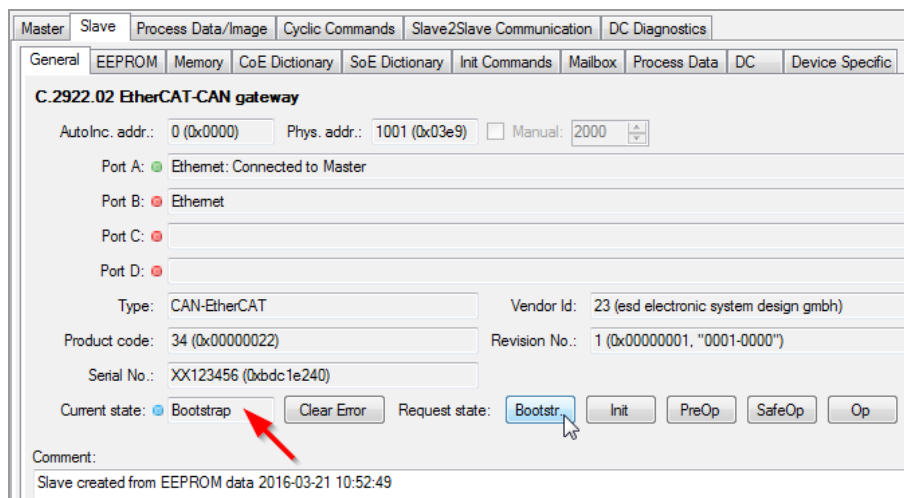

Figure 29: Firmware update via FoE
2. Set the slave in the state *Bootstrap*. Therefore choose the tab *Slave* and then *General*. Now click on the button **Bootstr** as described in Figure 29. The *Current state* of the CAN-EtherCAT gateway is switched to *Bootstrap*.